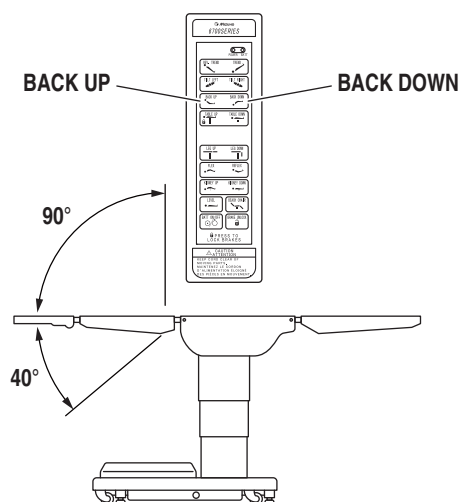

Figure 2-9. Back Section Positioning
**d. Back Section** To raise the back section, press the BACK UP button (figure 2-9). The back section will raise up to 90° above horizontal. To lower the back section, press the BACK DOWN button. The back section will go down to 40° below horizontal.